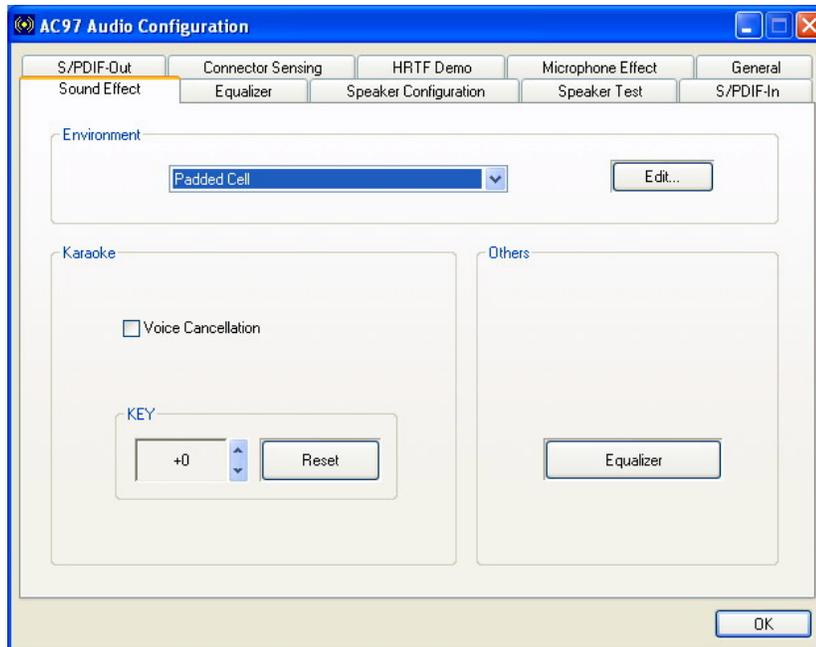

Figure 6-28: Sound Effects Manager (ALC655)
Step 3: The sound effect manager appears. (See **Figure 6-28**)
The Sound Effect Manager shown in **Figure 6-28** is for the RealTek ALC655 audio CODEC. Different CODECs may have different sound manager appearances.
The **Sound Effects Manager** enables configuration of the items listed below. To configure these items click the corresponding menu tab in the **Sound Effects Manager** in **Figure 6-28**.